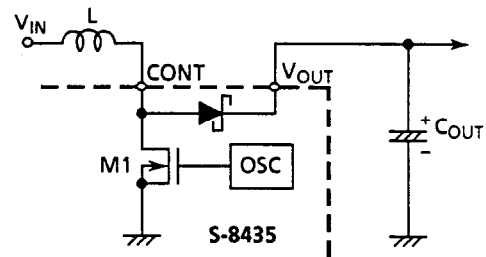

Figure 4
The basic equations ((1) to (7)) of the booster switching regulator are shown below (see Figure 4).